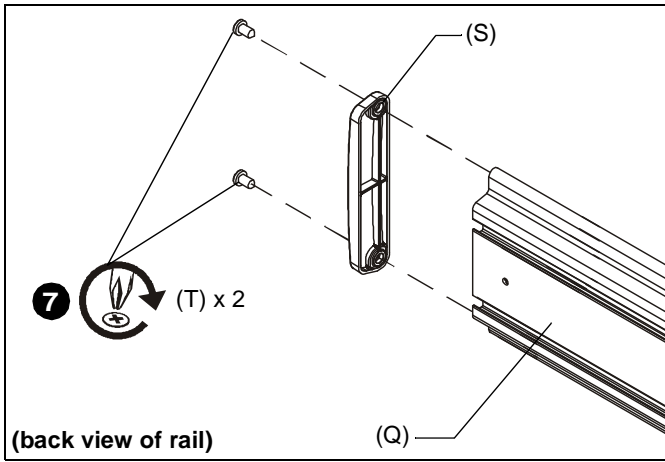

Figure 14
7. Attach one end cap (S) with two 1/4-20 x 1/2" Phillips head screws (T) to end of mounting rail (Q). (See Figure 14)